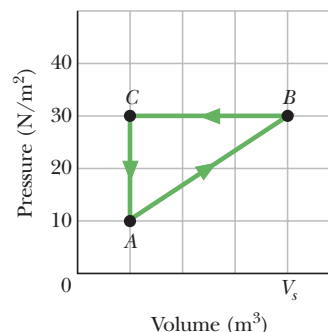

Fig. 18-38 Problem 45.
•45 A gas within a closed chamber undergoes the cycle shown in the p - V diagram of Fig. 18-38. The horizontal scale is set by $V_s = 4.0 \text{ m}^3$. Calculate the net energy added to the system as heat during one complete cycle.